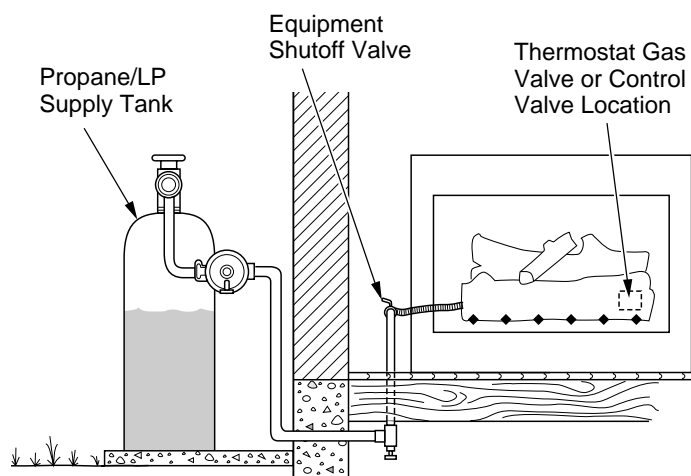

Figure 20 - Checking Gas Joints (propane/LP only)
3. Check all joints from gas meter to equipment shutoff valve for natural gas or propane/LP supply to equipment shutoff valve for propane/LP (see Figures 20 and 21, page 15). Apply noncorrosive leak detection fluid to all joints. Bubbles forming show a leak.
4. Check all joints from equipment shutoff valve to thermostat gas valve (Thermostat-Controlled Models), to control valve (Manually-Controlled Models), or to gas control (Remote-Ready Models)(see Figures 20 and 21). Apply noncorrosive leak detection fluid to all joints. Bubbles forming show a leak.